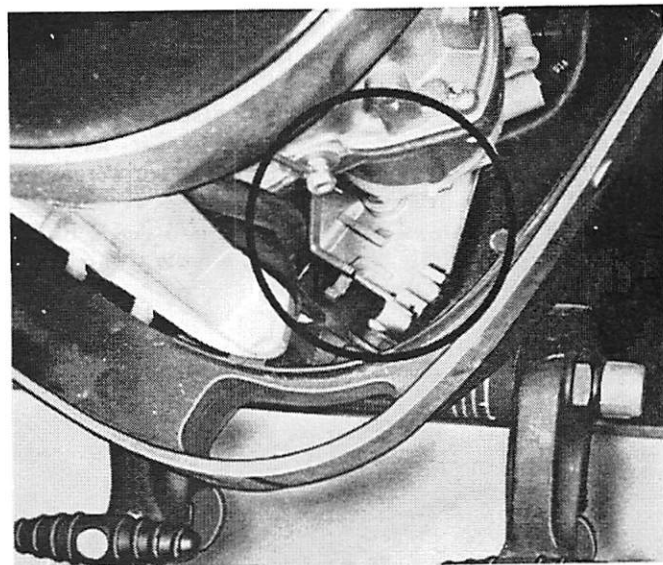

Figure 3. Anchor Pin Assemblies Removed
2. Remove screw, which fastens anchor pin assemblies to bracket, & remove anchor pin assemblies. (Fig. 3)